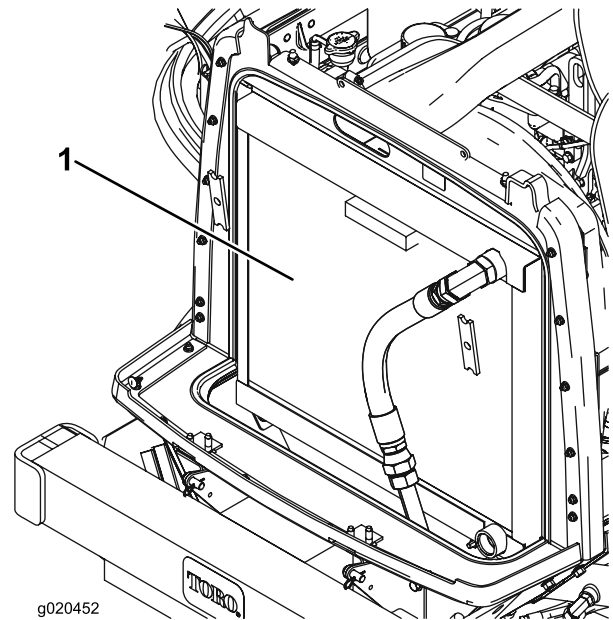

Figure 69
3. Clean both sides of the radiator/oil cooler area thoroughly with compressed air (Figure 69).